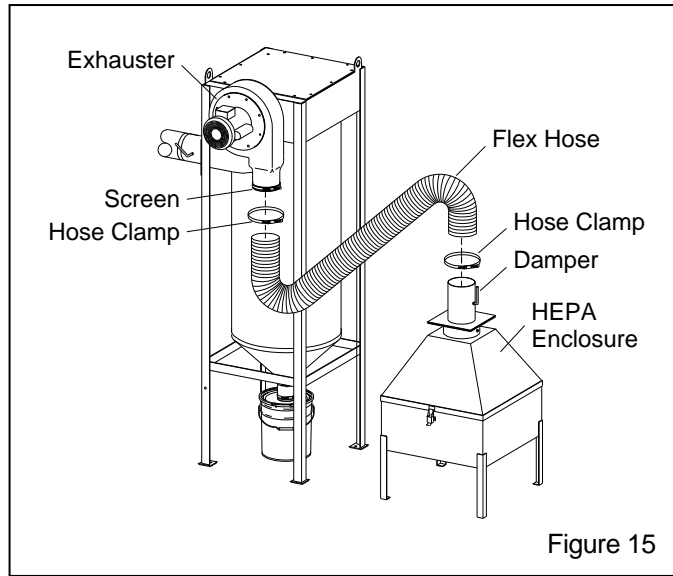

Figure 15
**4.1 Floor Standing HEPA Filter – Figure 15**